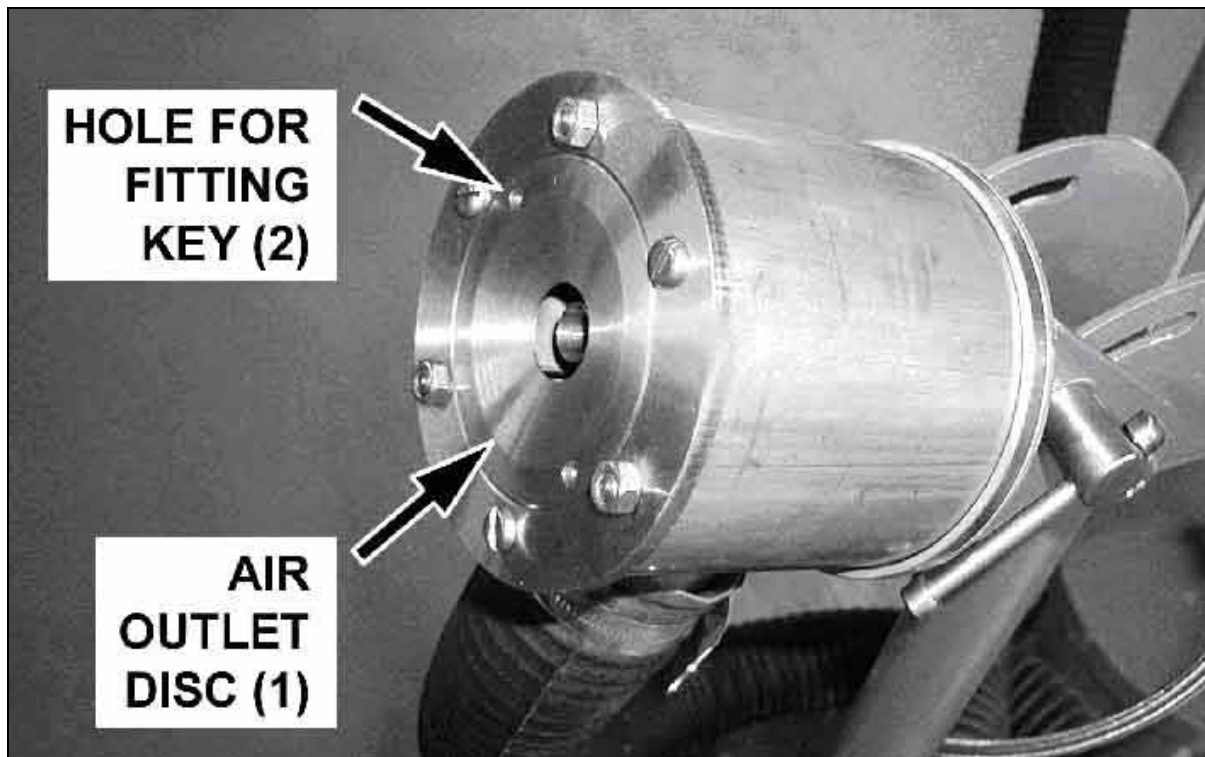

Fig. 6 – Air Outlet Disc of Sprayhead
The size of spray droplets produced by the AU9200 depends upon the physical properties of the insecticide being sprayed and the size of the outlet aperture discs (1 in Fig. 6) fitted to the sprayheads.
1. Using the key (EX6894, supplied with the sprayer) fitted into the two holes (2 in Fig. 6) in the face of the aperture disc, unscrew the disc and remove it from the sprayhead.